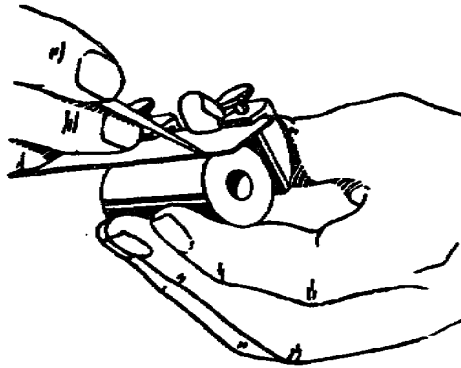

Figure 48. Using key seat clamps, rule, and scribe.
4. Key seat clamps and rule. Figure 48 illustrates the method of scribing a line on cylindrical stock, using key seat clamps and rule.